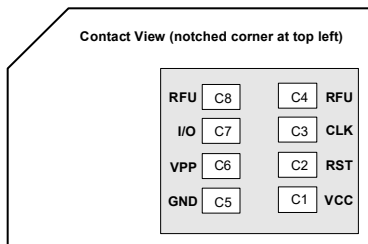

Figure 5-3: SIM card contacts (contact view)
- a. See Figure 5-3 on page 40 for UIM card contacts.